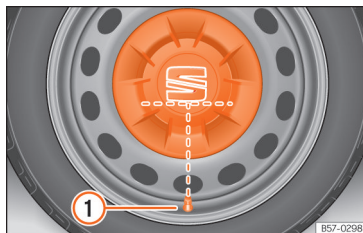

Fig. 223 Correct positioning of the central wheel trim for steel rims.
- Fit the central wheel trim onto the rim. The bottom of the "S" of the SEAT badge should align with the inflation valve >>> Fig. 223 ①.